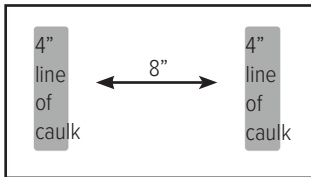

Figure 2.4.2
2.4.2 Apply caulk on vertical flat reveal as shown in Figure 2.4.2. Double sided tape can be placed sporadically across the reveal.